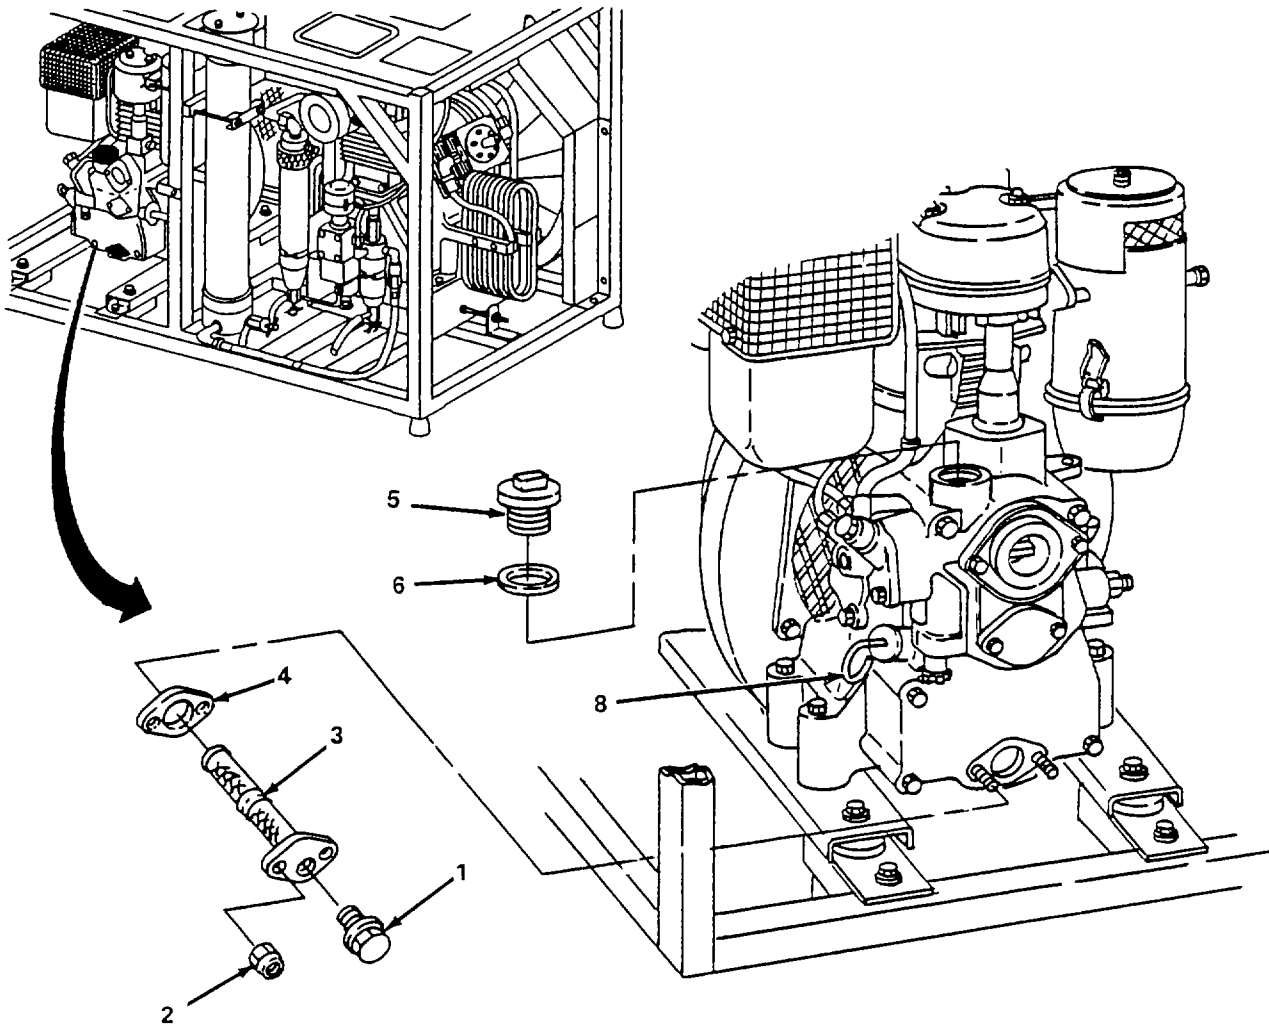

Figure 4-31. Oil Filter Screen, Service.
a. Service. (figure 4-31)
- (1) Remove drain plug (1) and drain oil into suitable container.
- (2) Remove two nuts (2), oil screen (3), and gasket (4). Discard gasket (4).
- (3) Clean oil screen (3) with dry cleaning solvent and dry thoroughly.
- (4) Inspect oil screen (3) and replace if screen material is ripped or oil screen is otherwise damaged.
- (5) Install new gasket (4) and oil screen (3) and secure with two nuts (2).
- (6) Install oil drain plug (1).
- (7) Remove filler plug (5).
- (8) Fill engine with oil until oil level reaches full mark on dipstick (6). Refer to table 3-1 for proper grade viscosity of oil.